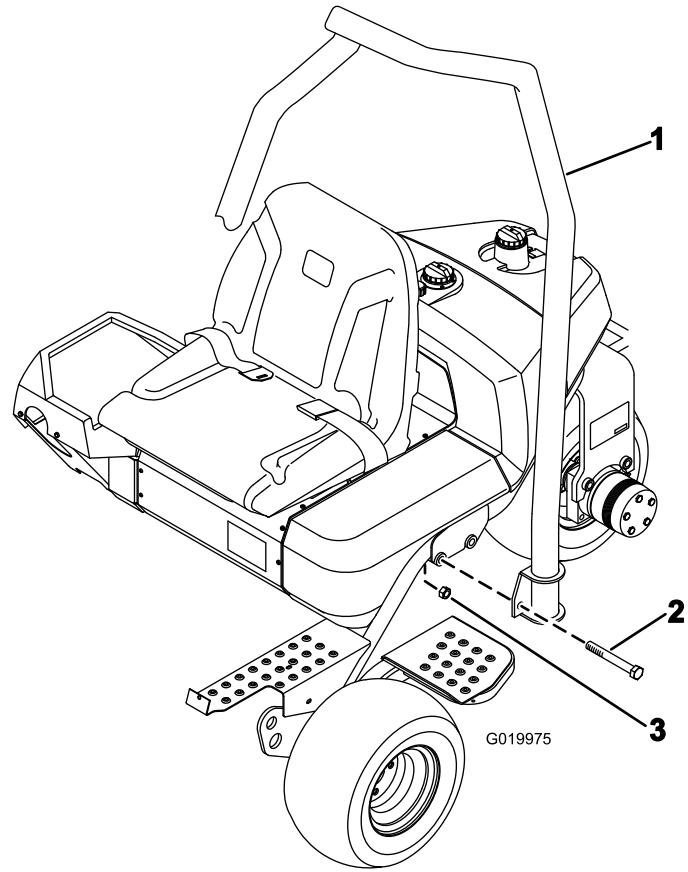

Figure 7
1. Position the ROPS so the top of the tube is curved toward the front of the machine (Figure 7).
2. Lower the ROPS onto the frame, aligning it with the mounting holes (Figure 7).
3. Secure each side of the ROPS to the frame with 2 bolts (5/8 x 4-1/2 inches) and locknuts as shown in Figure 7. Torque to 183–223 N·m (135–165 ft-lb).